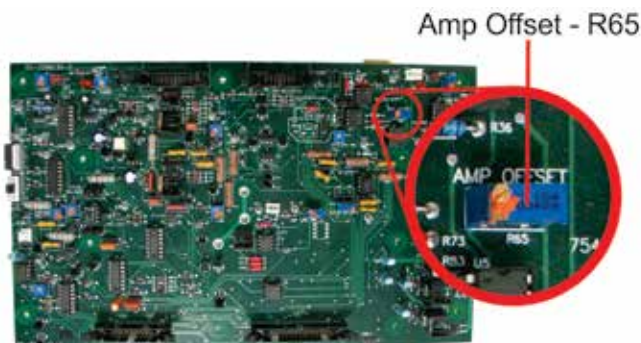

Figure B.2.23 – Amp Offset Location on the Main Board
- On each amplifier main board, locate the Amp Offset (R65) (see **Figure B.2.23**).